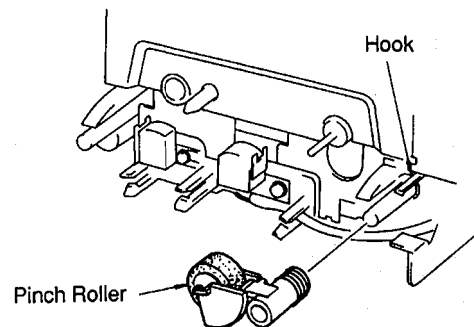

Fig. 5
- Pull off 1 hook and then remove the Pinch Roller in Fig. 5.